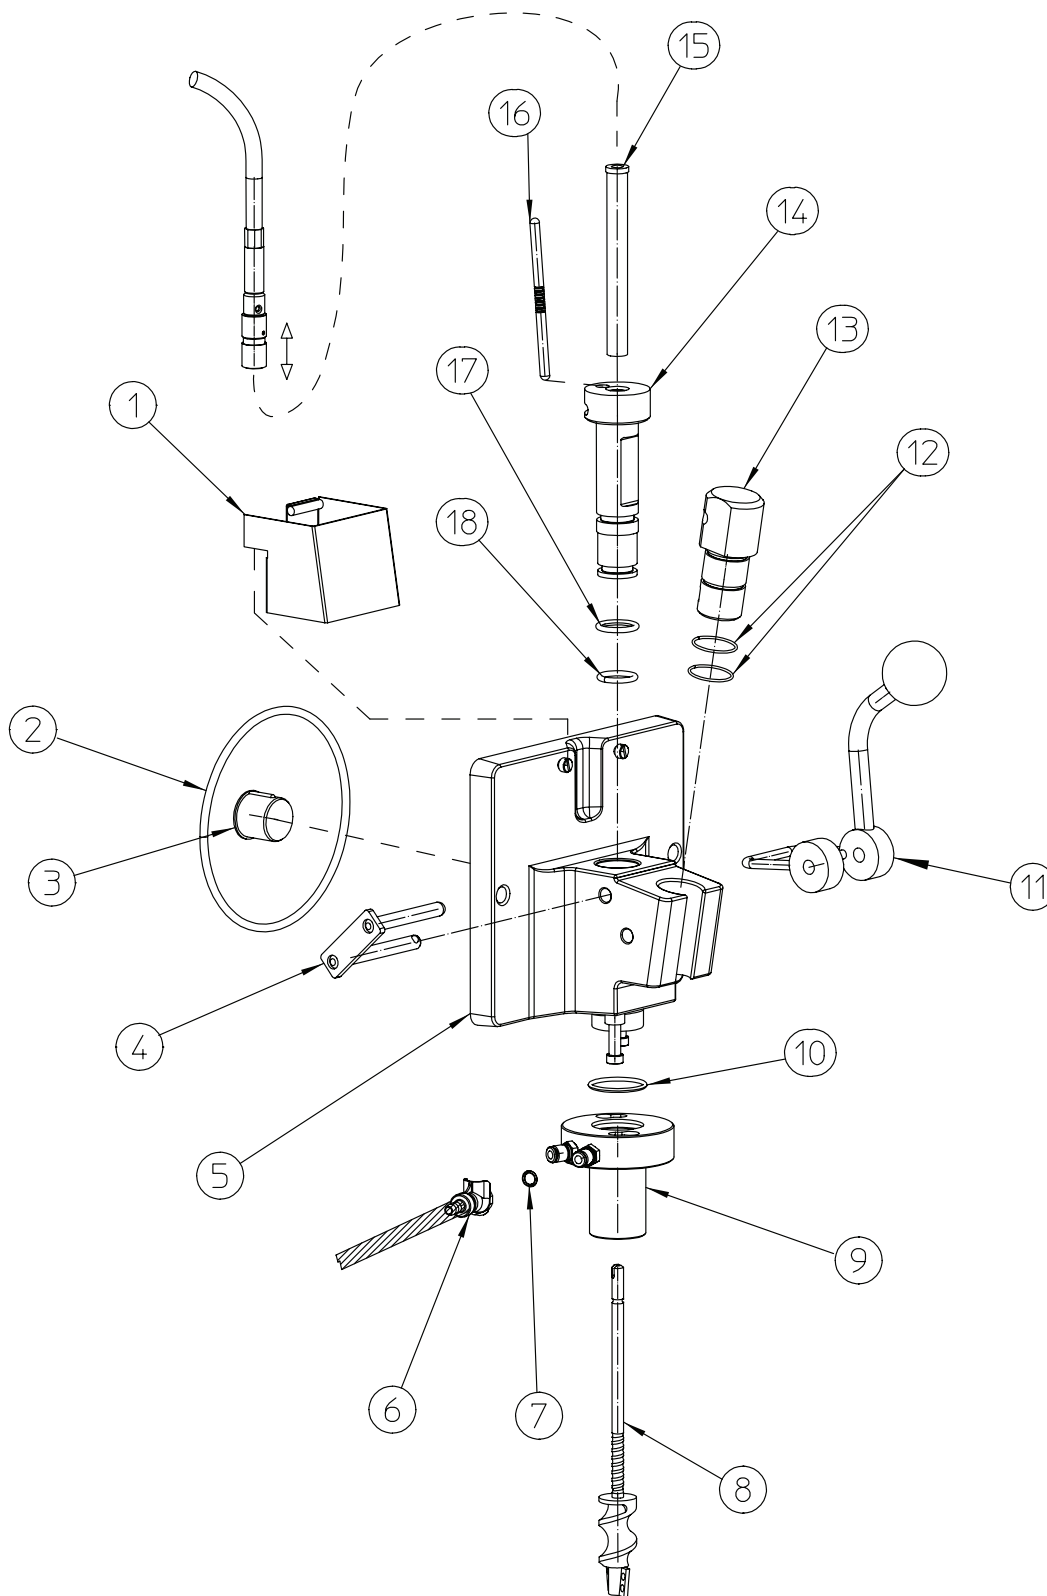
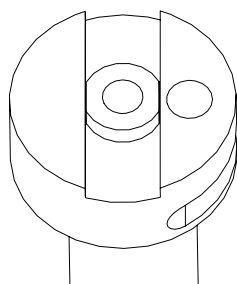

Figure 7-4 Head Assembly
Figure 7-5 Mix Shaft Bushing
6. See figure 7-4 and o-ring chart in the replacement parts section of this manual. Install the head o-ring (2) into the groove on the back of the dispense head (5),
7. (Install the o-rings (17, 18) on the plunger (14). Lubricate the o-rings.
8. Install the o-rings (12) onto the pivot post (13). Lubricate o-rings lightly. Insert pivot post into the head so the holes are toward the back.
9. Install the mixer shaft bushing (15) into the plunger (14), making sure to have the flats of the bushing fully seated in the grove of the plunger, figure 7-5. You will not be able to turn the sleeve if it is inserted correctly.